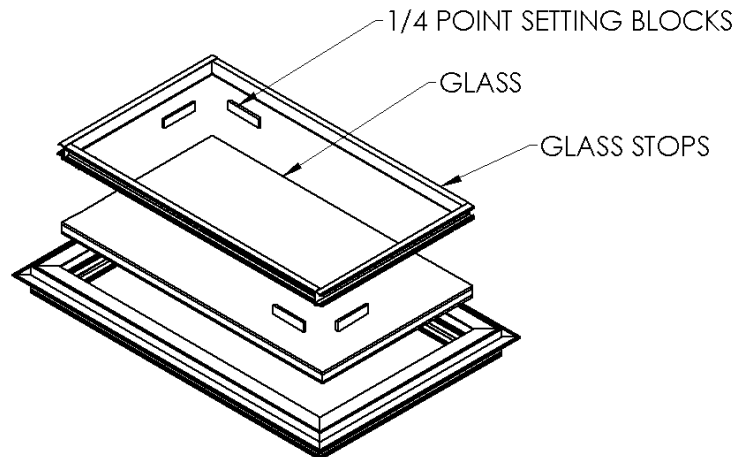

Figure 11:
- Casement:** 1/4 points on the hinge side lower corner (bottom and side) and 1/4 points of the diagonal (top and side) to prevent "sash sag" (Figure 11).
- Install glass to rest on the inner flange of panel then install glass stops (Figure 11).